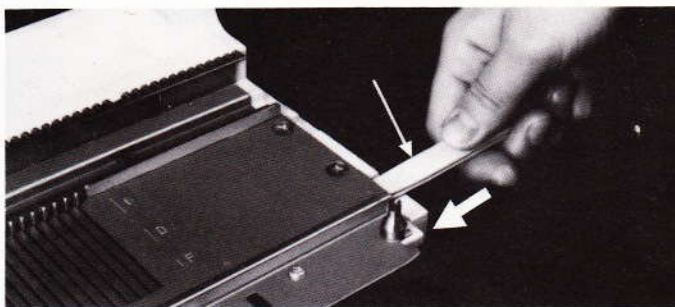

Fig. 228
- With the handle of the latch tool push the needle retaining bar at the side of the machine nearest the broken needle (fig. 228),